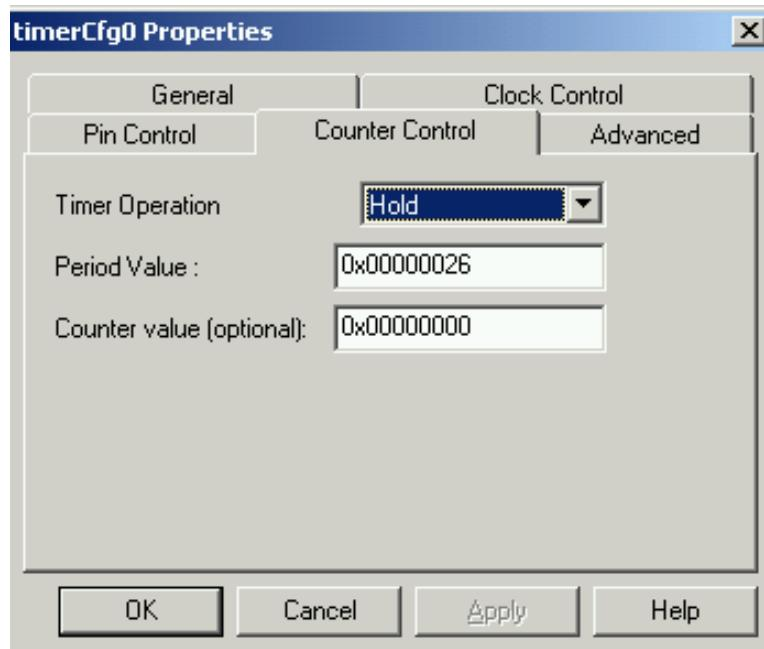

Figure 24. Timer0 Cfg. Counter Control Tab Options
3. In the Counter Control tab, type the value shown in Figure 24. Type 0x26 into the Period Value field. The frequency of the timer is set by the formula below: